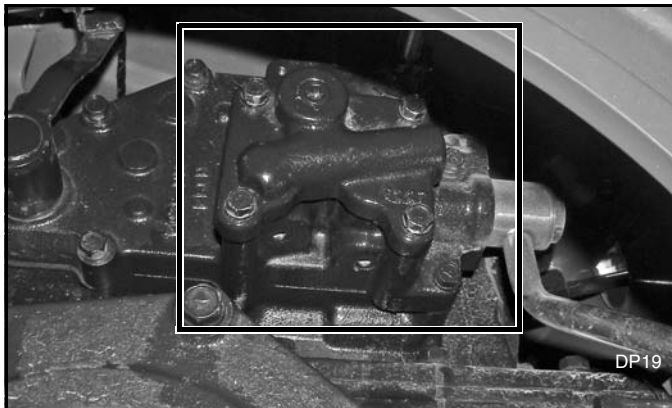
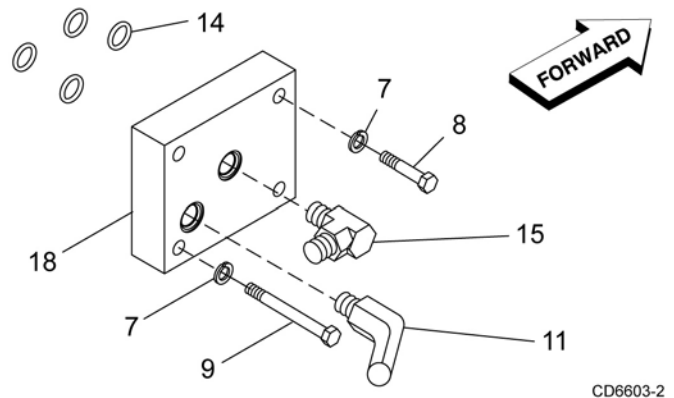

Figure 19. Hydraulic Manifold Location
Figure 20. Hydraulic Block and Fitting Installation
1. Locate the hydraulic manifold block on the right side of the tractor just under the fender (Figure 19) and remove the block-off cap.
2. Attach hydraulic block (18) to tractor using new O-rings (14), three cap screws (8) and one cap screw (9) plus washers (7). Make sure O-rings are properly seated during installation.
3. Install elbows (15) and (11) into ports shown in Figure 20. Point elbows rearward.